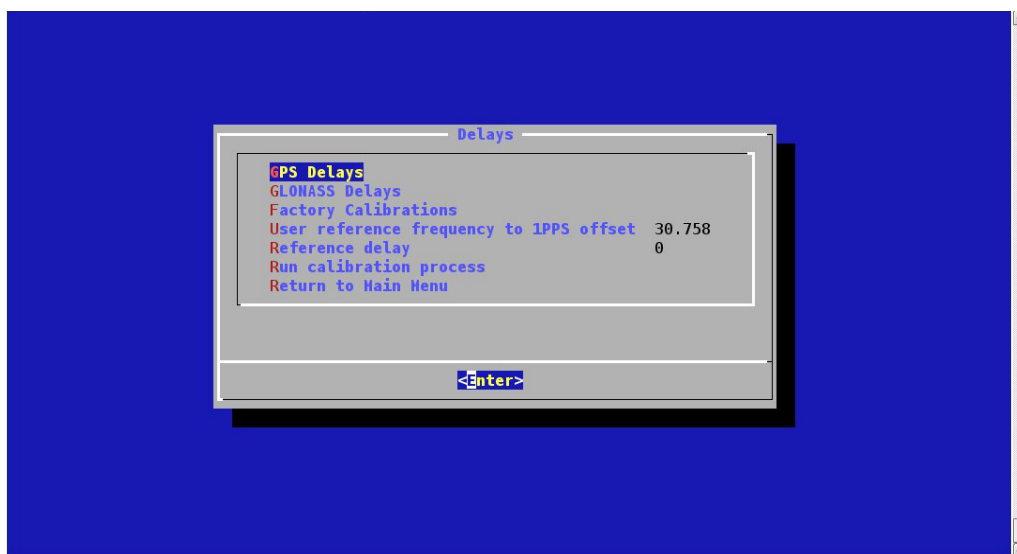

Figure 18: Delay selection
4. select the specified delay (fig. 18)
- Select "User reference frequency to 1PPS offset" (fig. 18)